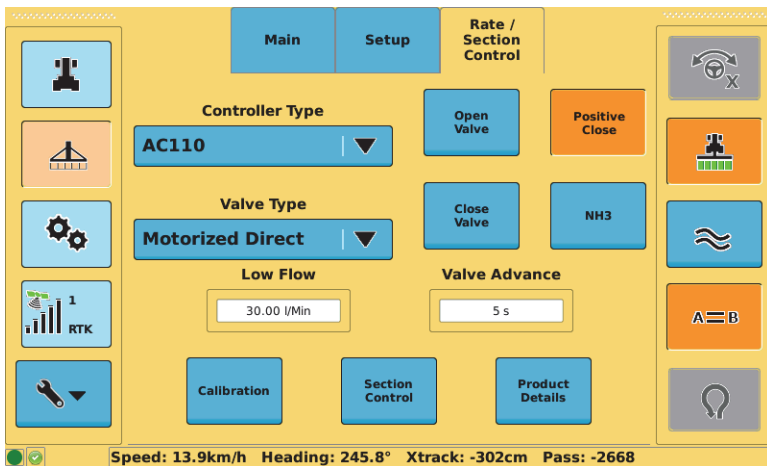

Figure 7-3: Rate control screen
2. Press **Rate Control**. The rate control screen appears (Figure 7-3 above—when you first display this screen no values will be selected or entered).
2. Press **Rate Control**. The rate control screen appears (see Figure 7-3 on page 132).